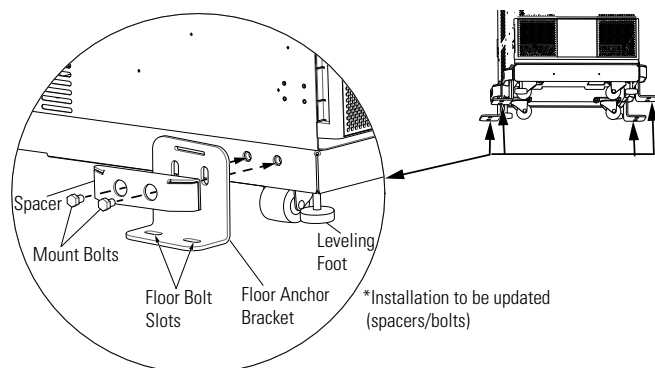

Figure 9. Floor Anchor Bracket Installation
Each bracket has holes that enable it to be attached by screws to the floor (see Figure 9). The anchor brackets are attached to the cabinet base itself.
2. Attach the brackets to the cabinet base as shown in Figure 9
5. Using the proper type of customer-supplied screws for the intended mounting surface, attach each bracket as shown in Figure 9. All screws must be properly driven into the structural material.